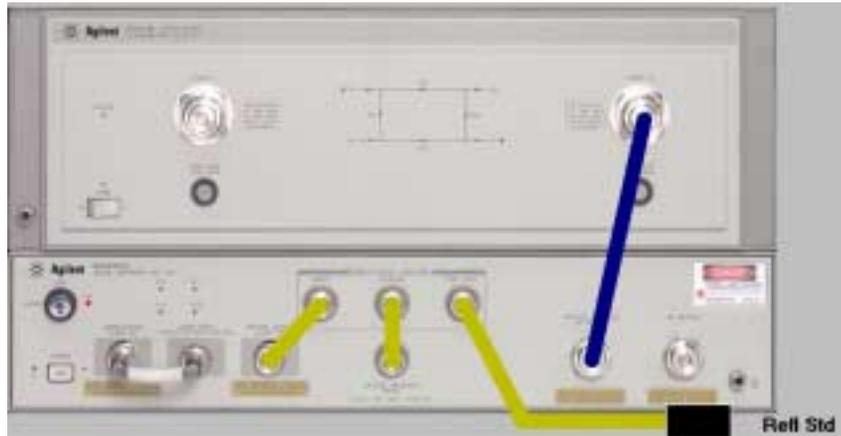

Figure 4-11. Connections for O/E Reflection Response Calibration (Std1), and O/E Reflection Response and Isolation Calibration (Std1, Std2)
- Pre-Conditions:** The connections in Figure 4-11 on page 4-52 have been made on the instrument.
- Pre-Conditions:** OERFRESPNISOL_STD1 has already been performed. The connections in Figure 4-11 on page 4-52 have been made on the instrument.